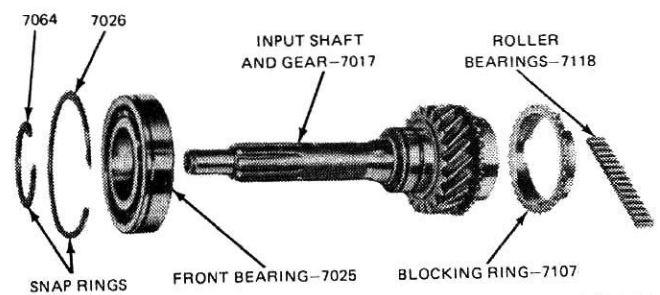

FIG. 15 Input Shaft Gear Disassembled
9. Coat the bore of the input shaft and gear with a thin film of grease. **A thick film of grease will plug the lubricant holes and prevent lubrication to the bearings.** Install the 15 bearings (Fig. 15) in the bore.